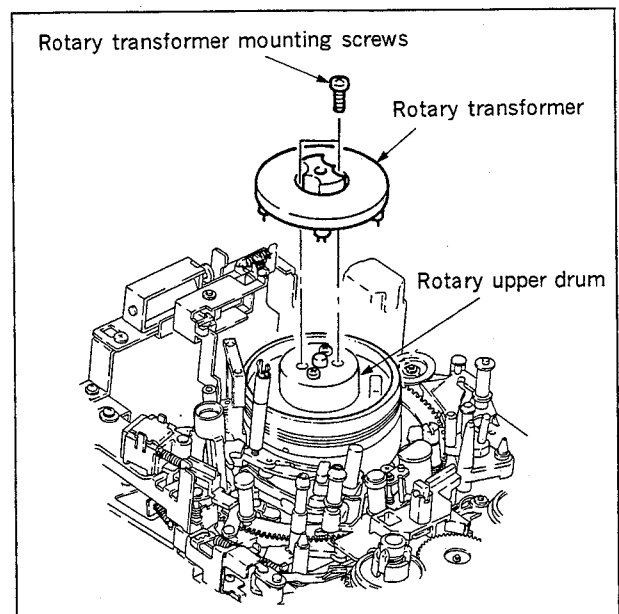

**Fig. 4-2-2 Drum cover and the rotary transformer (stator)**
3. Drum cover removal (Fig. 4-2-2)
4. Rotary transformer (stator) removal (Fig. 4-2-2)